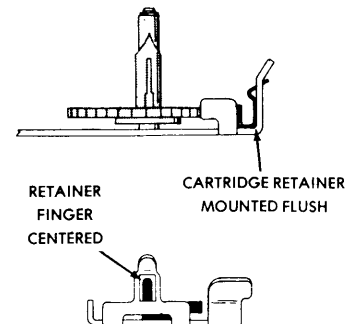

FIGURE 211. CARRIAGE RETAINING SPRINGS
2. CARTRIDGE RETAINING SPRINGS: The cartridge retaining springs should be positioned laterally so they are FLUSH against the feed plate; then adjusted front to rear so that the cartridge retaining fingers are centered in the holes of the cartridge guide lugs. (Fig. 211). The ratchet brake portion of the spring should exert a small drag on the feed ratchet. Form only as necessary.